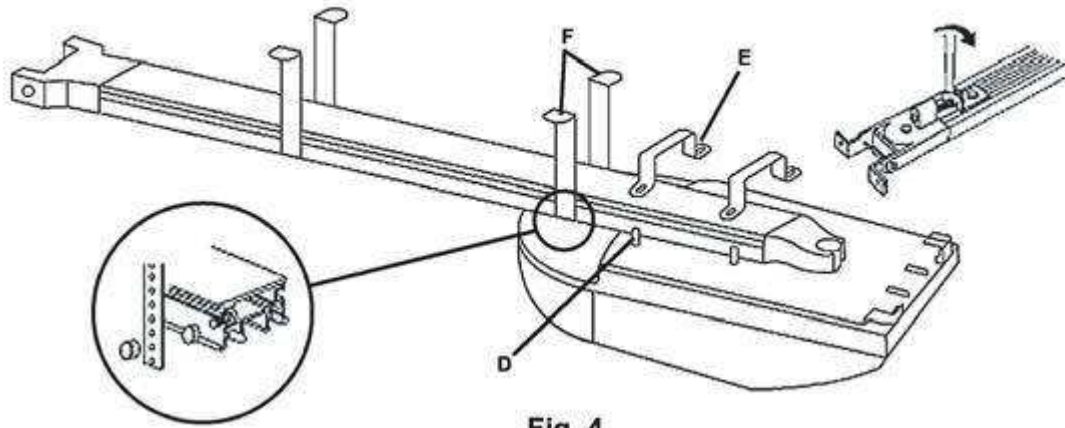

Fig. 4
Before attaching the motor brackets (E) (FIG 4) screw an inverted nut (6mm) (D) on each stud then position the brackets (E) on the studs and secure them in-place using a second 6mm-nut and then lock the brackets to the rail by tightening the inverted lock nuts (D). Fix the opener to the doorframe